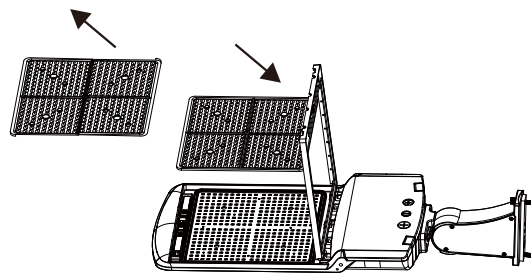
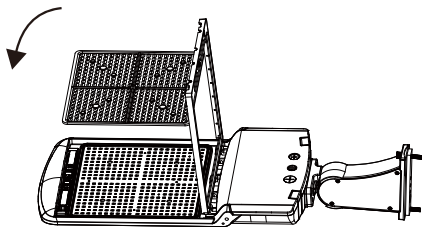

Figure 2
Figure 3
- To replace the lens: Lift the lens frame and carefully extract the existing lens. Insert the replacement lens and seat it firmly within the frame (Figure 2). Close the lens frame back into place (Figure 3).